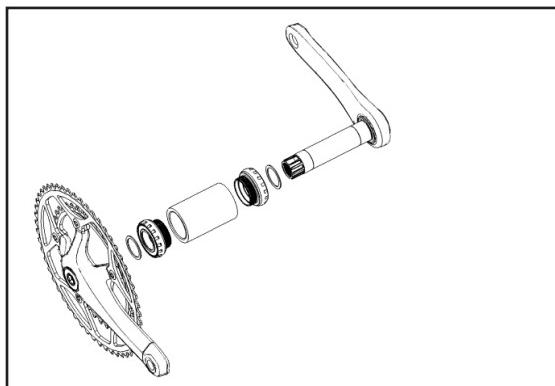

Figure 1 Exploded diagram of Race XXX Lite crankset
- Crankset and bottom bracket- left and right crank arms, chainring(s), and bottom bracket (the axle and bearings on which the crankset rotates) (Figure 1)